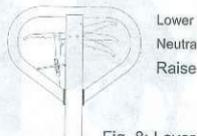

Fig. 8: Lever
If necessary, you can adjust the lever according to following steps (Fig. 8):
- c) If the forks do not descent when the control handle is in the **Lower** position, turn the adjusting nut clockwise until raising the control handle lowers the forks. Then check the **Neutral** position according to fig. 8 and be sure that the adjusting nut is in the proper position.